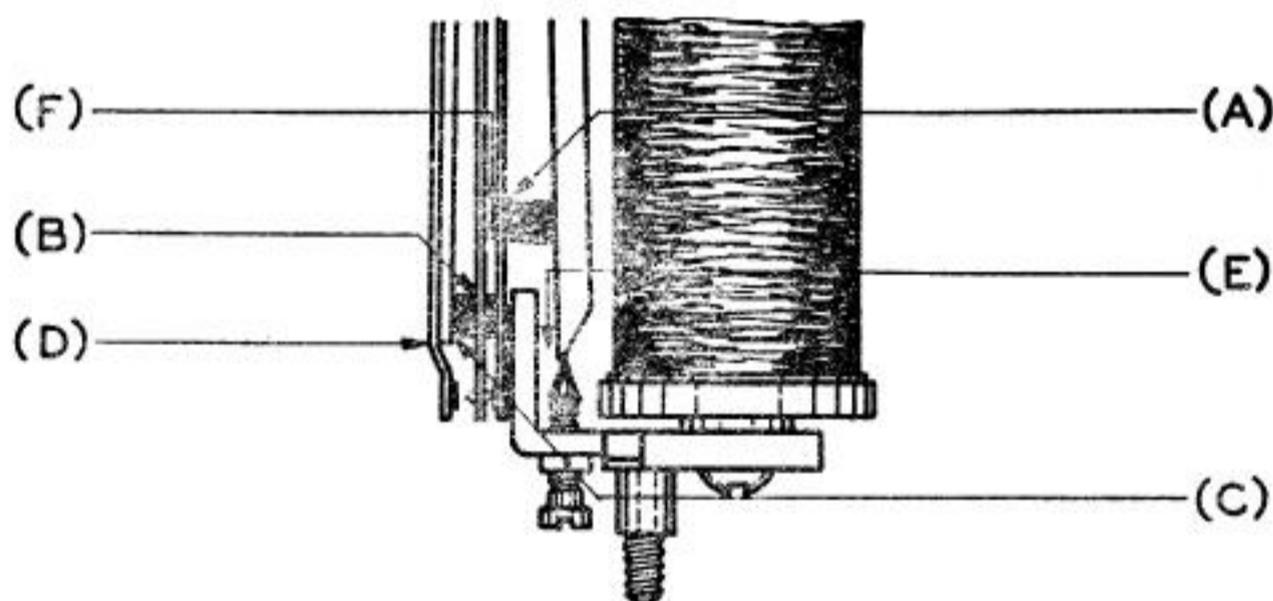

Fig. 1—162-type Relay—Top View
- 1.01 **Armature Stud Clearance:** Fig. 1 (A) — Not touch springs in any position.
- 1.02 **Traveling Spring Position:** Fig. 1 (B) — Not rub on rubber stops.
- 1.03 **Stop Spring Position:** Fig. 1 (C) — Rest on the rubber stops.
- 1.04 **Flexible Front Contact Spring Position:** Fig. 1 (D) — Rest against stop spring, at least at end nearest contact. Relay unoperated.
1.06 **Armature Travel:** Fig. 1 (E) — Unless otherwise specified in Table 2 or on circuit requirement table armature travel shall be as in Table 1 — 92-type gauge.
1.08 **Stud Gap:** Fig. 1 (F)